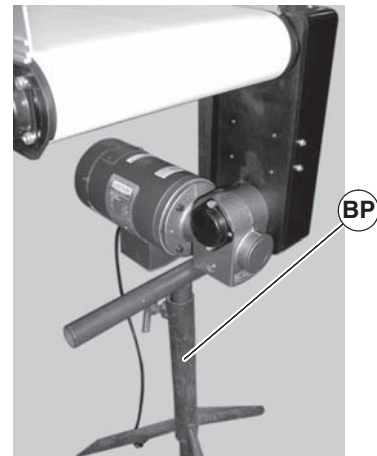

Figure 59
- Use a temporary support (Figure 59, item BP) to support Gearmotor.